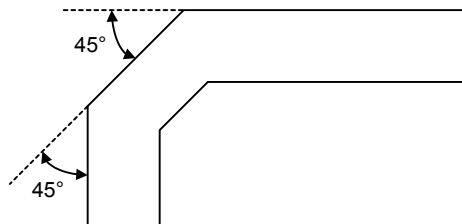

Figure 16. Trace Routing
- For high-speed signals, the number of corners and vias should be kept to a minimum. If a 90° bend is required, it is recommended to use two 45° bends instead. Refer to Figure 16.